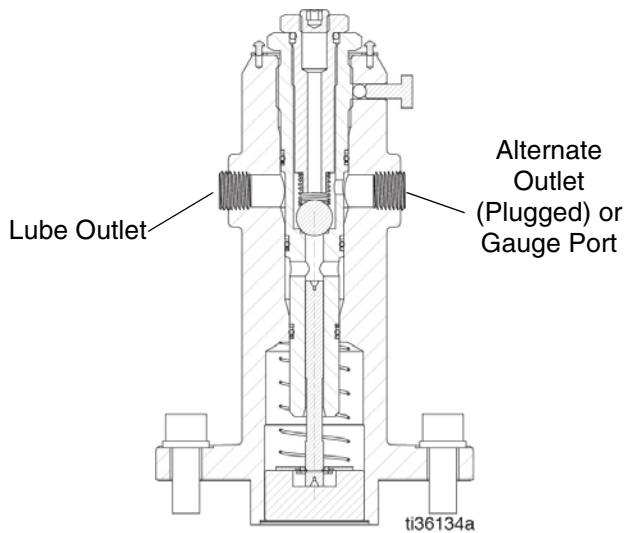

FIG. 1
2. Loosen outlet fitting or alternate outlet until no more lubricant or air leaks from the fitting. (FIG. 1)